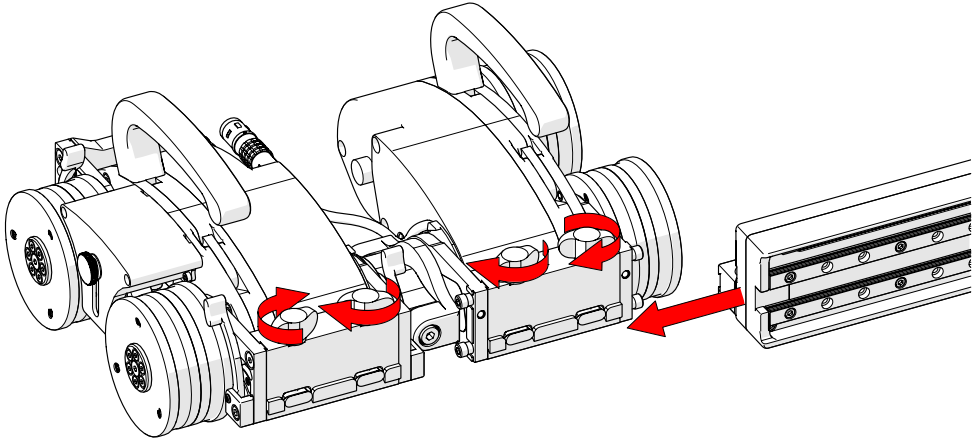

Fig. 105 - Slide onto one swivel mount
1. Loosen all four black wing knobs on both modules. Slide the raster arm's mounting rail onto the dovetail jaws of one of the modules (Fig. 105).